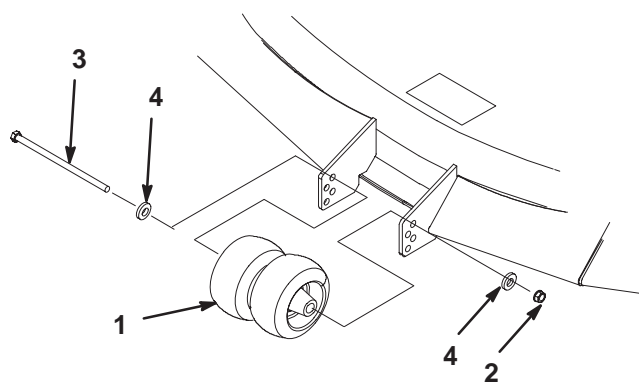

Figure 17
1. After adjusting height-of-cut remove bolt, washers and nut (Fig. 17).
2. Select a hole position so the gage wheels are a minimum of 3/8 in. (9.5 mm) off the ground for the height-of-cut to be used (Fig. 17).
3. Reinstall the bolt, washers and nut (Fig. 17).